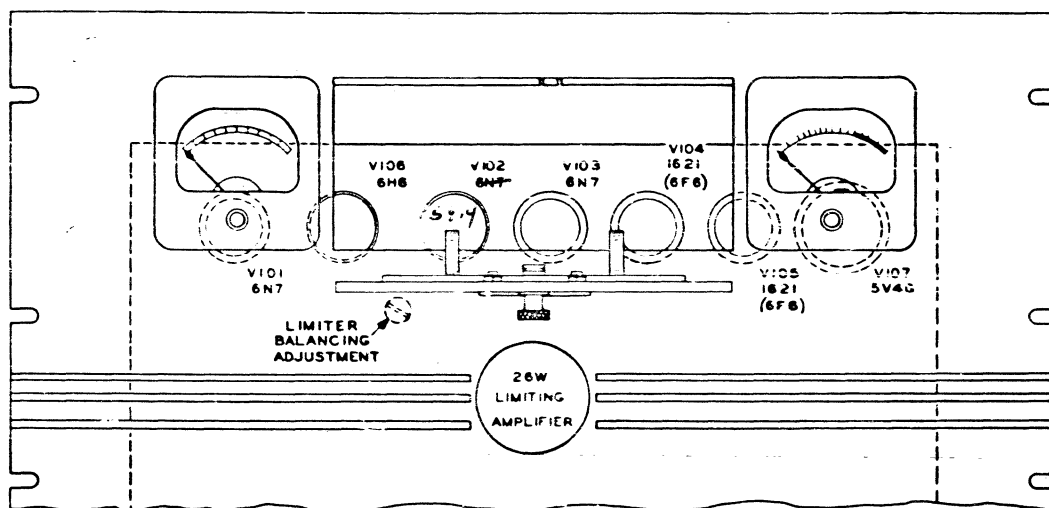

Figure 5-1. Tube Locating Diagram
(3) INSERTING TUBES. - Open the tube access door located in the front panel by turning the door button counterclockwise. Refer to the tube locating diagram Figure 5-1. Insert tubes in their proper sockets.